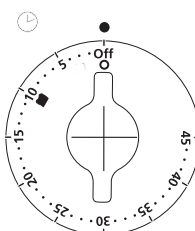

Figure 3
4. **Timer Selector Knob** – Allows to adjust the dial to the desired time for up to 45 minutes. Oven will automatically shut off when cooking is completed. (See Figure 3)